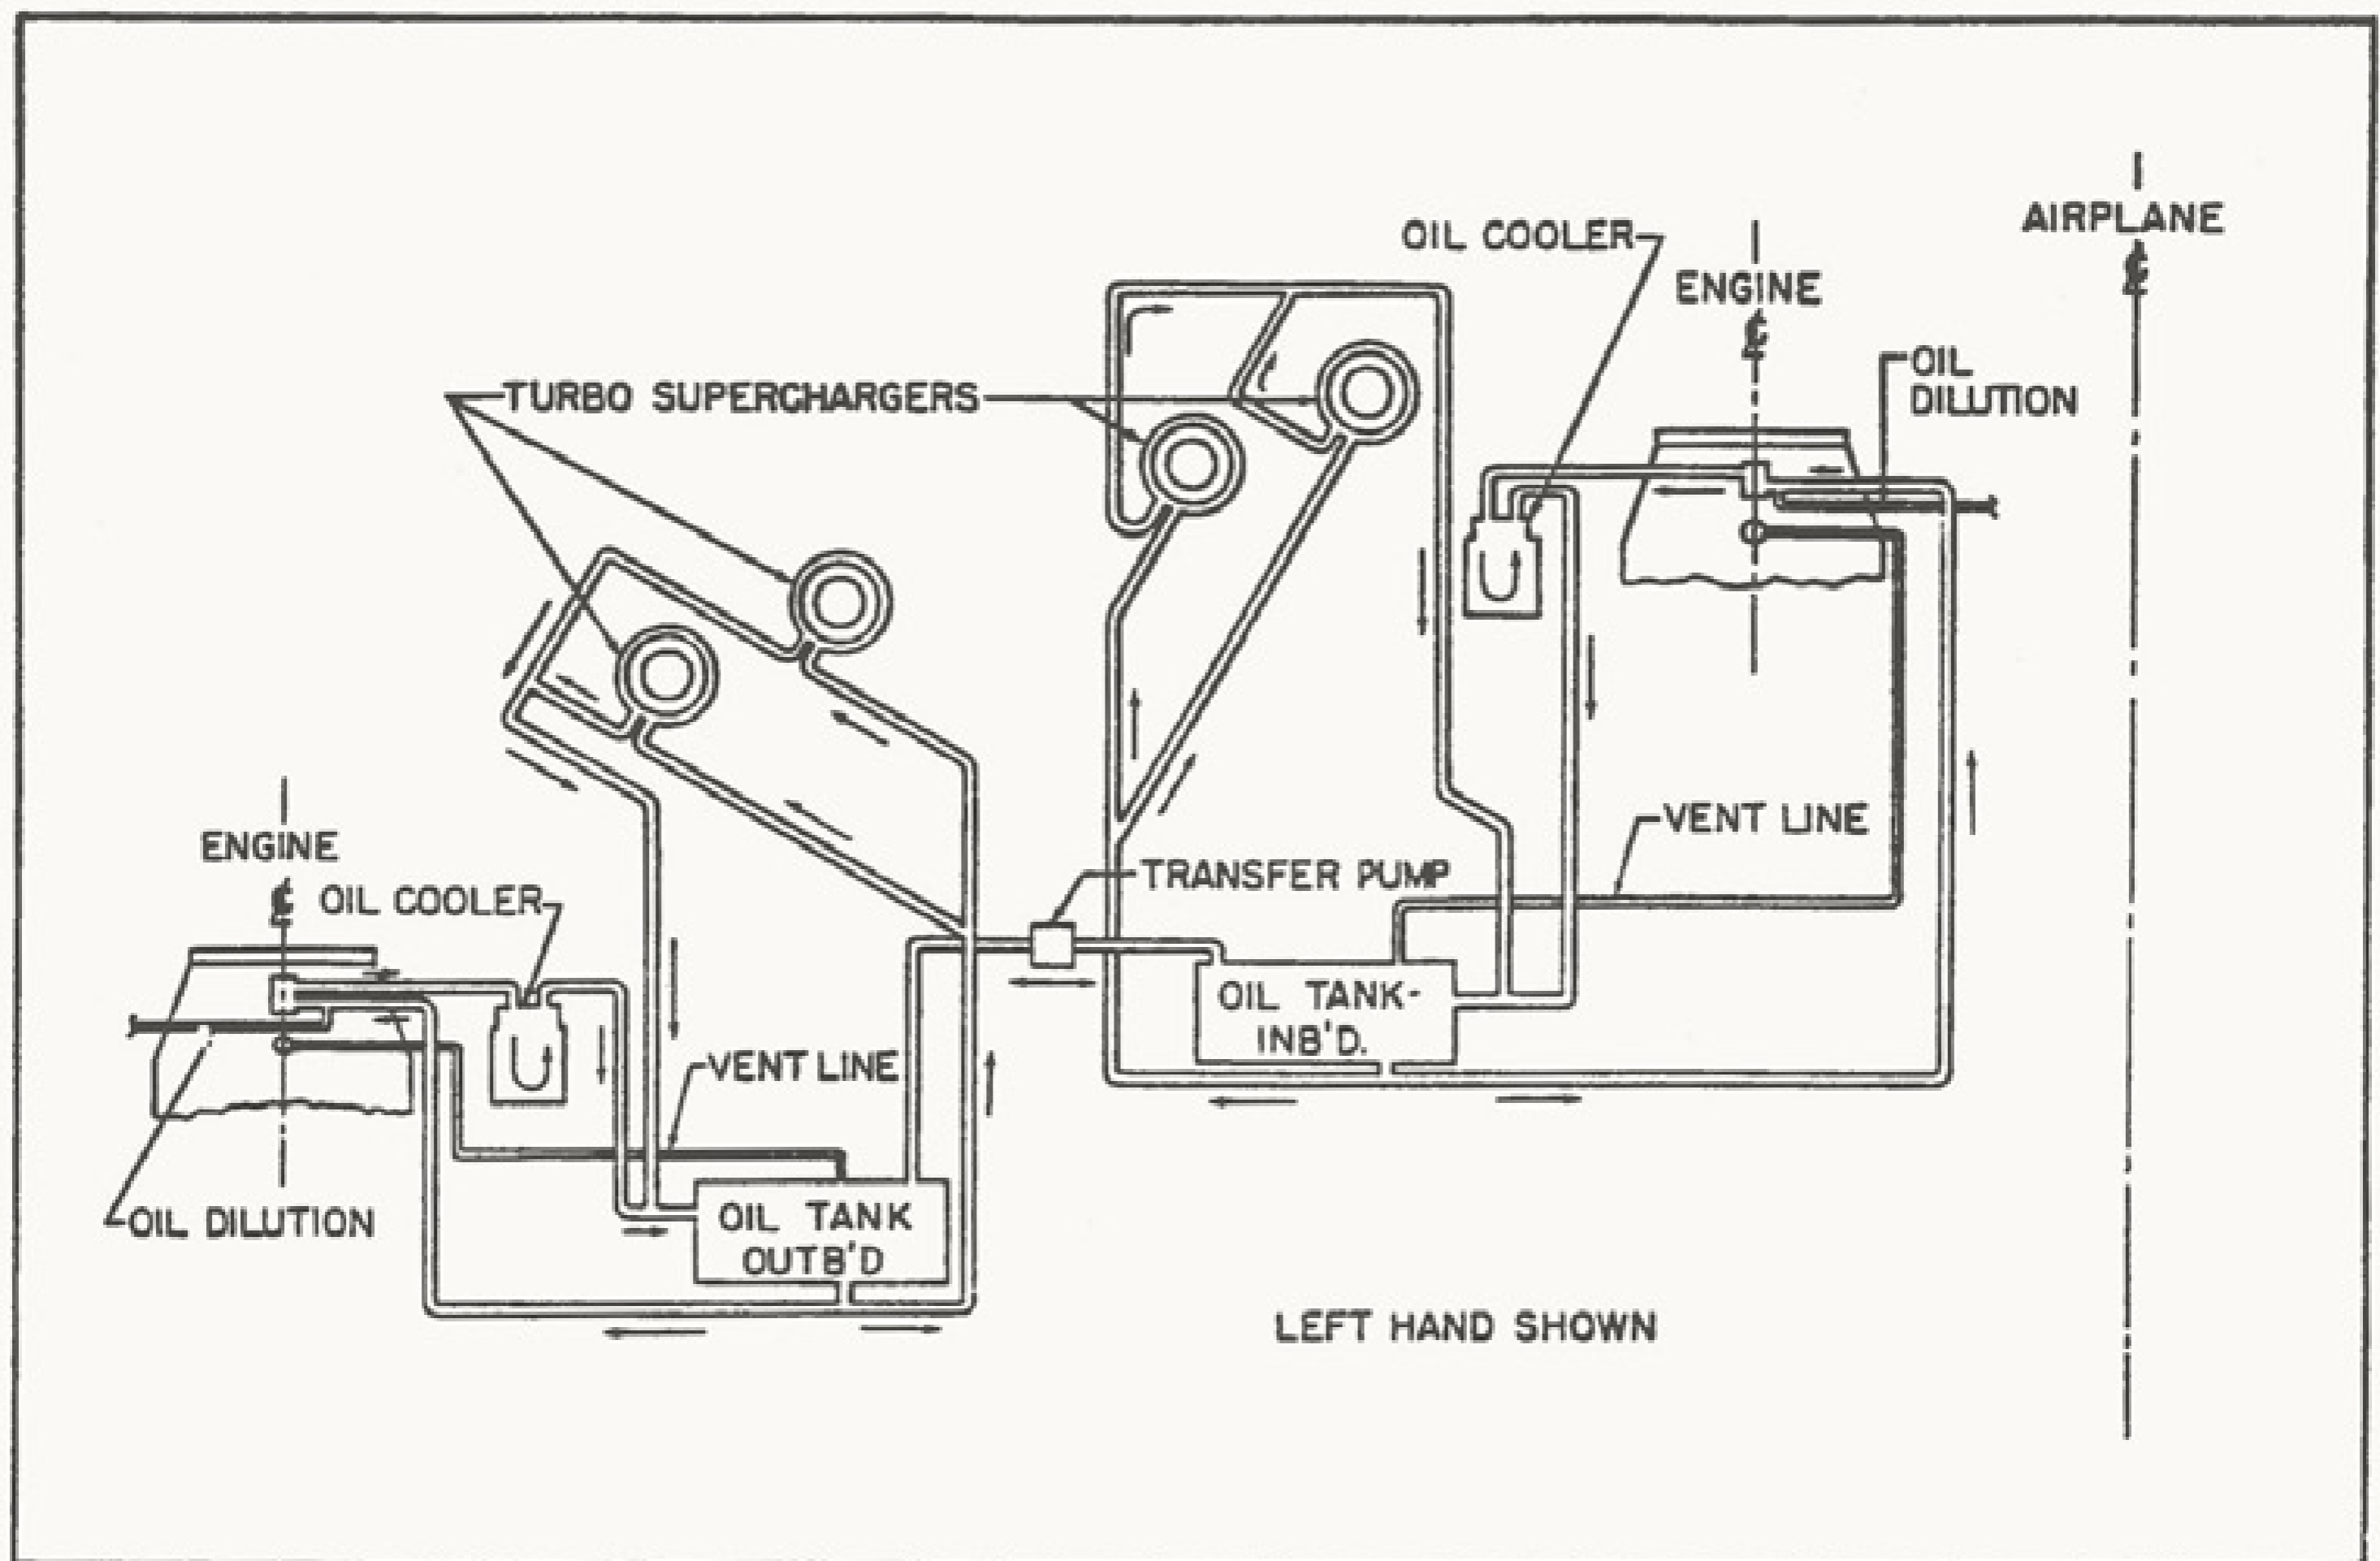

Figure 22. Engine Oil System
46. ENGINE AND TURBO OIL SYSTEM.- An independent oil system is provided for each engine and its two turbosuperchargers. (See figure 22.) Oil may be transferred between the two tanks on the same side of the airplane.